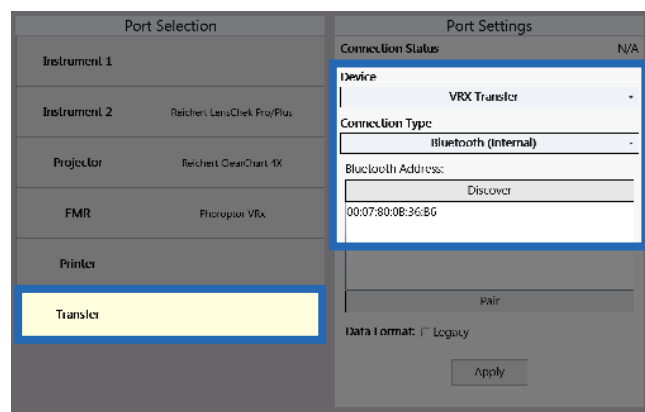

Figure IS-30, Internal Bluetooth Transfer
3. In the Port Settings panel, tap **Transfer** in the Port Selection column. Be sure that under Device, **VRx Transfer** is selected. Refer to Figure IS-30.
4. Select Bluetooth (Internal) under Connection Type. Refer to Figure IS-30.
5. Tap **Discover** under Bluetooth Address. Refer to Figure IS-30.